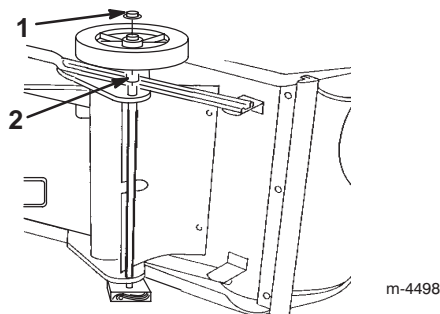

Figure 2
1. Turn the snowthrower onto its left side and place a wood block under the left axle end (Fig. 2).
2. Slide the *short* spacer and a wheel onto the right axle end (Fig. 2).
3. Slide a pushnut onto the end of the axle (Fig. 2).